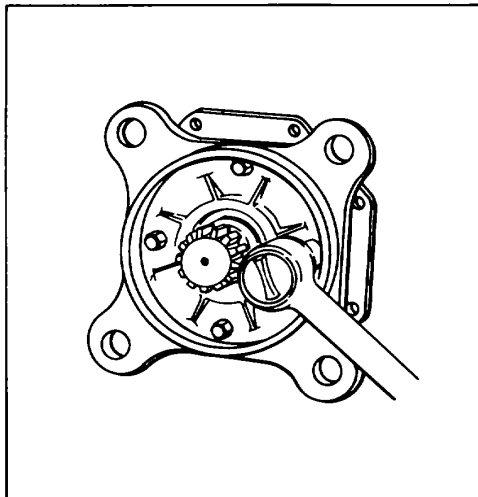

Figure 132.
6. Line up bolt holes and secure seal assembly (57) to flange (2) with hex bolts (58) and lock washers (6). Torque bolts to 132 in. lbs. See Fig. 132.